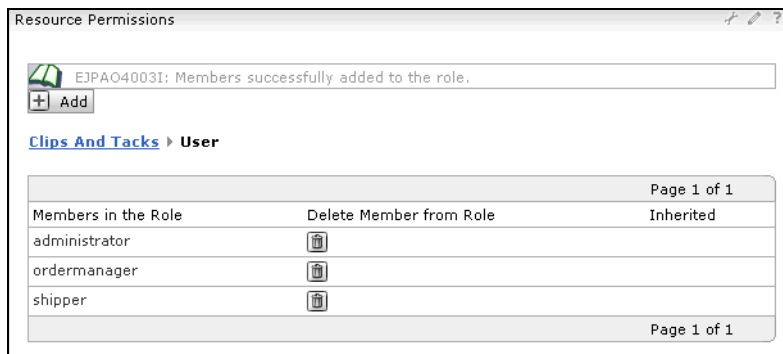

Figure 14-90 Portal page with permissions added
- ▶ Click **OK** and the selected groups are added to the role members (Figure 14-90).